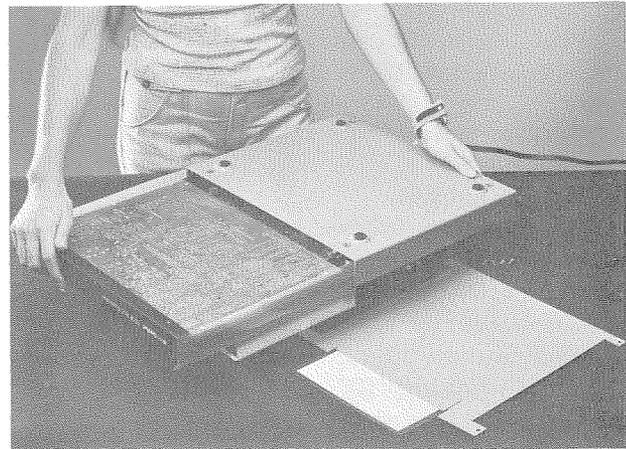

Figure 5-5. Removal of the bottom shell. The top cover has been temporarily installed as a support.
h. Remove 4 screws from the bottom shell, one near each rubber foot. Lift the instruction card and its retaining pan free. Slide the bottom shell back (or forward), free of the main chassis (Figure 5-5). Reassembly notes: Be sure to enfold the pliable dirt seals at left and right sides of main chassis as you start to slide bottom shell onto main chassis; use 4 screws, 8 mm long.